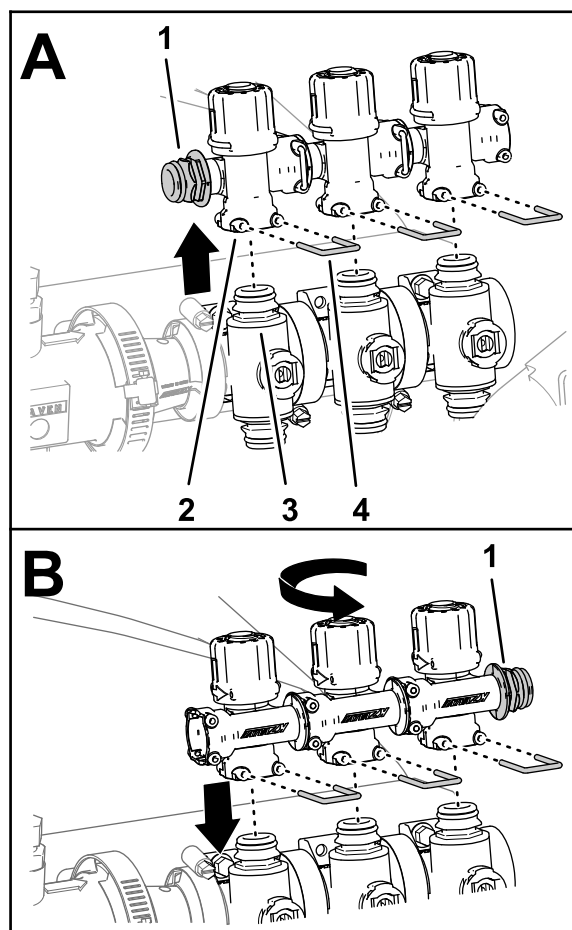

Figure 64
4. Remove the 3 retainers that secure the 3 bypass valves to the left, center, and right section valves (Figure 64).
5. Lift the bypass valves from the section valves (Figure 64).
6. Rotate the bypass valves 180° and assemble them onto the quick disconnect fittings of the section valves (Figure 64).
7. Secure the 3 bypass valves to the section valves with the 3 retainers that you removed in step 4 (Figure 64).